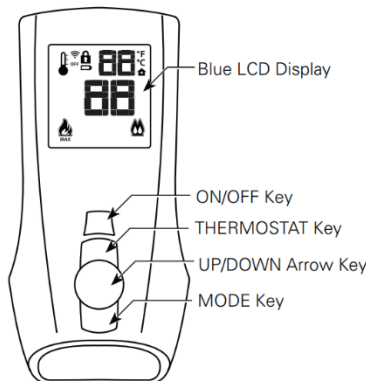
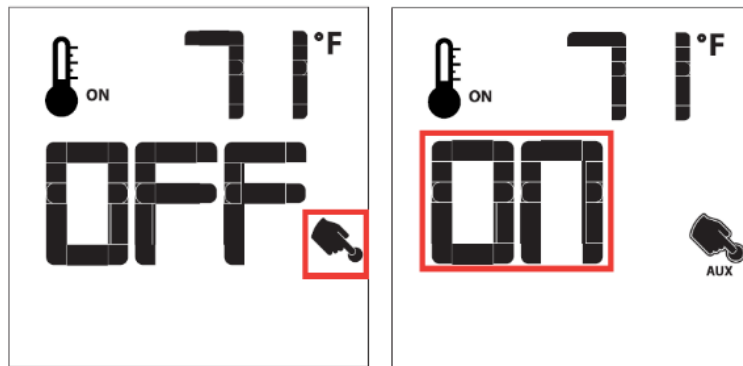
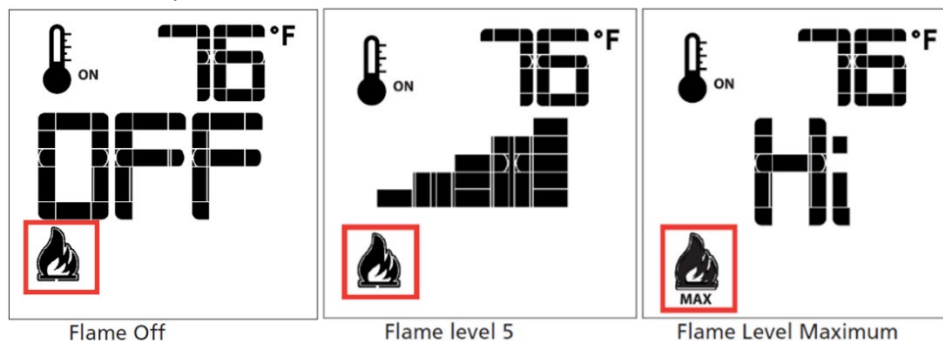
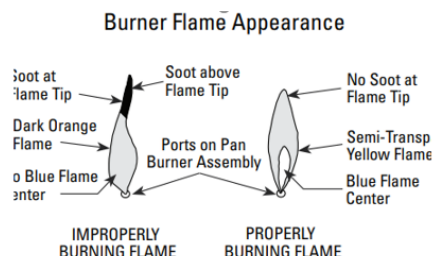

FIGURE 67
FIGURE 68
FIGURE 69
FIGURE 71
Press the ON/OFF key on the Remote (**Figure 67**). A single beep from module will confirm command and the LCD display will turn blue. Press the MODE Key until AUX icon is visible (**Figure 68**). Pressing the Up Arrow Key will turn the AUX from “OFF” to “ON” and this will activate the ADC100 to power on the fan and damper. Press the MODE Key until Flame Control screen appears (**Figure 69**) then press the ON/OFF key to turn off system. The fireplace system will now initialize once the remote “ON” key is pressed.
The system has six (6) flame levels. See (**Figure 71**) for an example. With the system on, and the flame level at the maximum in the appliance, pressing the Down Arrow Key once will reduce the flame height by one step until the flame is turned off. The Up-Arrow Key will increase the flame height each time it is pressed. If the Up Arrow Key is pressed while the system is on, but the flame is off, the flame will come on in the high position (**Figure 69**). A single “beep” will confirm reception of the command.
Adjusting the appliance to cause the flames to turn orange sooner may result in poor combustion, sooting and a hazardous situation. See (**Figure 71**) showing proper flame appearance.